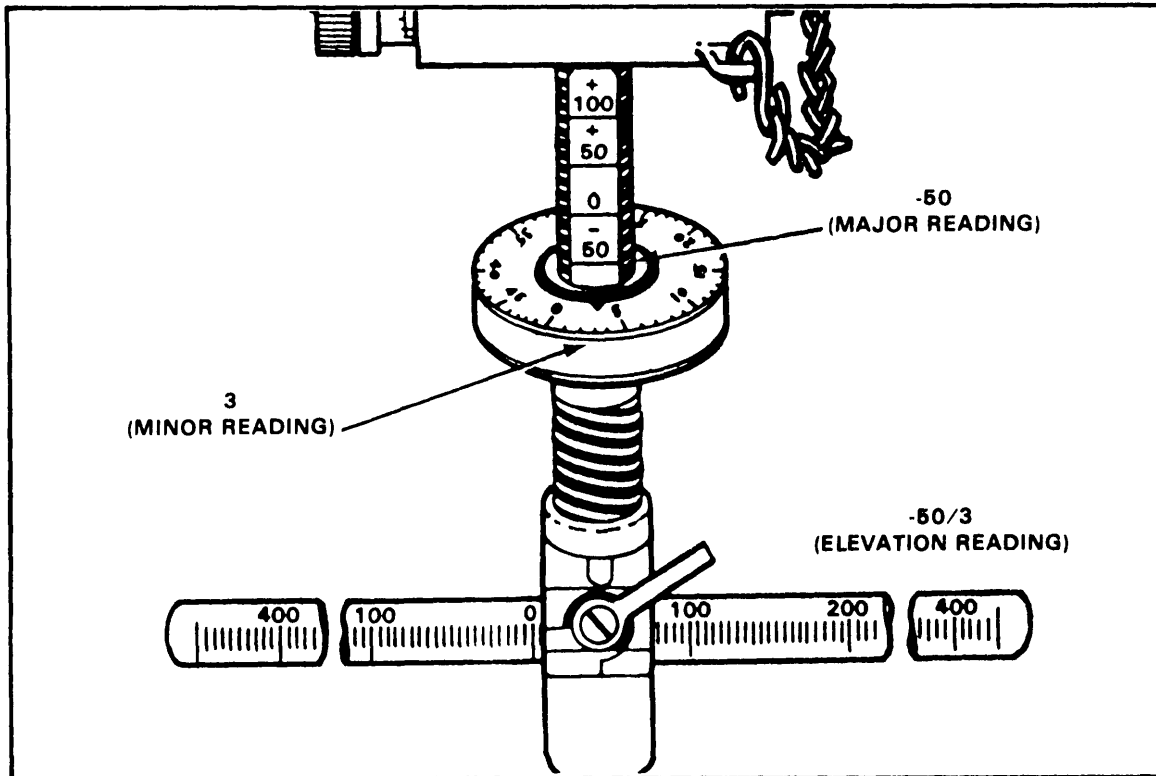

Figure 5-7. Elevation readings.
(1) Major reading. The elevating scale plate is graduated in 50-mil increments from -250 to +100. Except for the zero, each number has a plus or minus sign above it. All numbers, including zero, have an index line below them. To get the major elevation reading, hold the T&E so that your eyes are even with the top of the elevating handwheel. The major reading (for example, -50) is the first number, with an index line, that is visible above the handwheel (Figure 5-7).
(2) Minor reading. The elevating handwheel scale is marked in fifty increments of 1 mil each (Figure 5-7). The minor reading, which has no plus or minus sign, is the number that lines up with the pointer. The minor reading represents the number of mils the gun is laid below the major reading, for example, 3.
(3) Verify a direction elevation reading by firing and adjusting on the target.
(4) Use the dry-fire method to get data to targets without live firing and adjusting. Set the rear sight on the range to the target, lay the gun on the center base of the target, and take direction and elevation readings. Use the dry-fire method only when firing is not feasible.